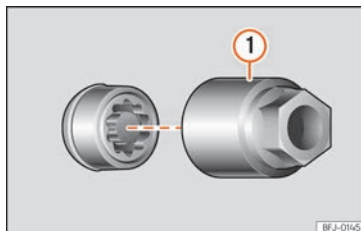

Fig. 34 Anti-theft wheel bolt with cap and adapter.
- Insert the special adapter »» **Fig. 34 ①** (vehicle tools »» **page 40**) onto the anti-theft wheel bolt and push it on as far as it will go.